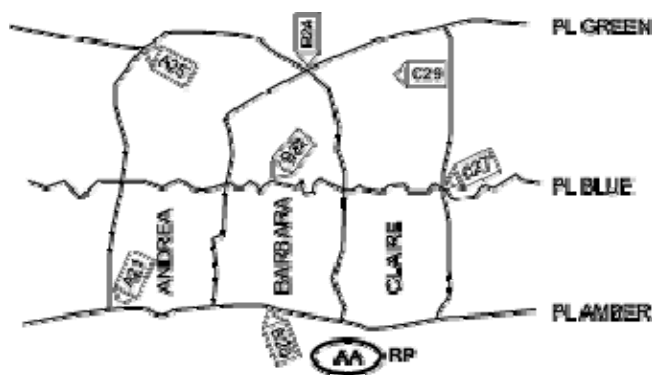

Figure 1. Infiltration Scheme of Maneuver.
2. **The standard scheme of maneuver is a three-lane infiltration, one lane per platoon.** Platoons are separated by distance, squads are separated by time. *See Figure 1.*